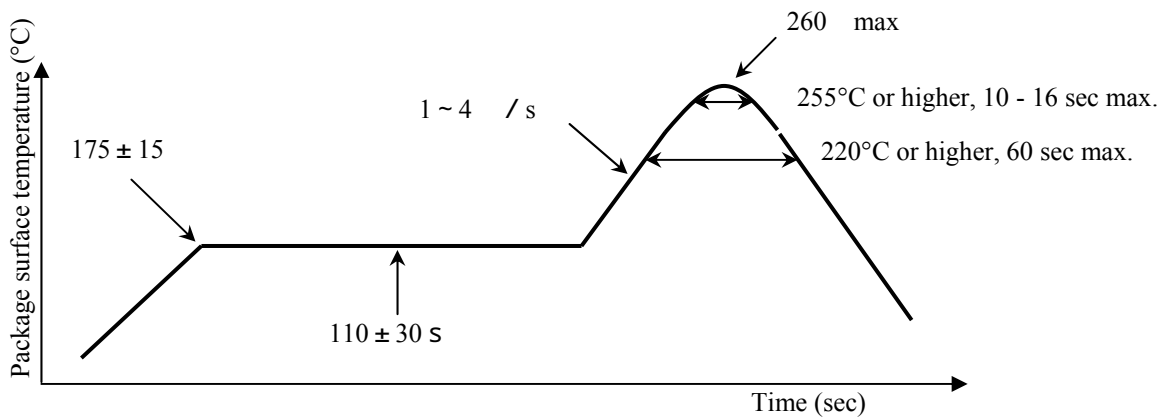

Fig.1 Reflow method temperature profile
When mounting the IC chip at a high temperature using reflow soldering, the melting temperature of the solder depends on the mounting board and paste adhesive materials. Referring to the mounting temperature profile shown in Fig. 1, choose the optimum soldering temperature within the profile.
- [Temperature] The surface temperature profile of the device is shown in Fig. 1.